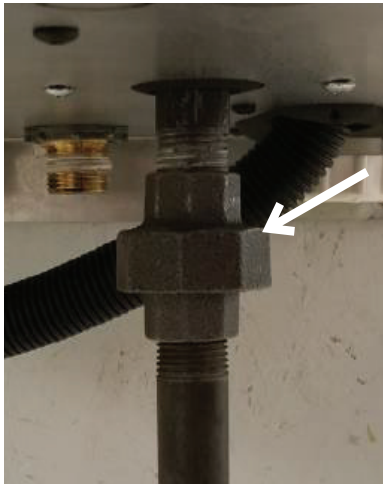

Figure 4
- If the gas piping is already installed and the boiler manual is followed, a 1/2" union should be installed directly under the boiler as shown in Figure 4. If so, the blower/gas valve assembly can be removed from the boiler with the top half of this union in place. Break this union using a "backup wrench" on the top (male) half of the union to protect the boiler gas piping from excessive torque. Note: If there is no union at the location shown, break the gas line at the closest convenient point and remove the gas piping attached to the boiler (when re-assembling install a 1/2" union as shown in Figure 4).